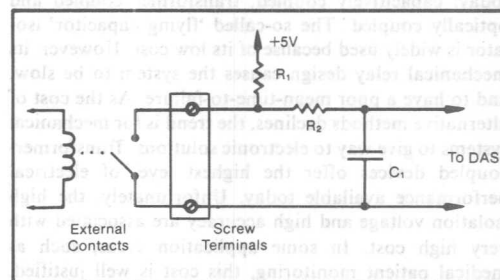

FIGURE 8.6. Contact Sensing and Wetting.
**Contact Sensing**—When interfacing to relay or switch contacts, a “pull-up” current must be provided. The pull-up current converts the opening and closing of the contacts to TTL levels. Because all metal surfaces tend to oxidize with time, poor relay contacts can result. This oxidation can be cleaned away by passing a minimum current through the relay contacts. Both level generation and contact wetting can be accomplished by connecting resistors between the input lines and the +5V power supply. This can be implemented on the signal termination panel as shown in Figure 8.6. A value of  $250\Omega$  for  $R_1$  will provide 20mA of wetting current, which is usually enough to keep most contacts free of oxide buildup.  $R_2$  and  $C_1$  function as a debounce filter to reduce erroneous inputs due to the mechanical bouncing of the contacts. When the switch is open, the system sees +5V. When the switch is closed, the input is 0V. This satisfies the TTL requirements of the system.